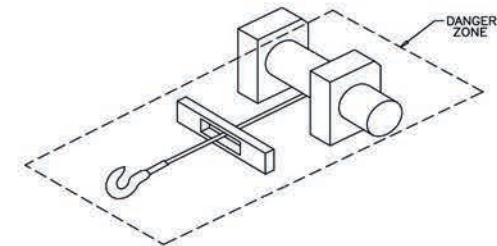

Fig. 1
3. Beware of the danger zone. The danger zone is the area of the rotating rope drum, the fairlead (if fitted), the rope, the hook, and motor (**see Fig 1.**) First relieve tension on load then disconnect the control switch before putting hands in or around the danger zone. Disconnect power leads to battery before working in or around drum.